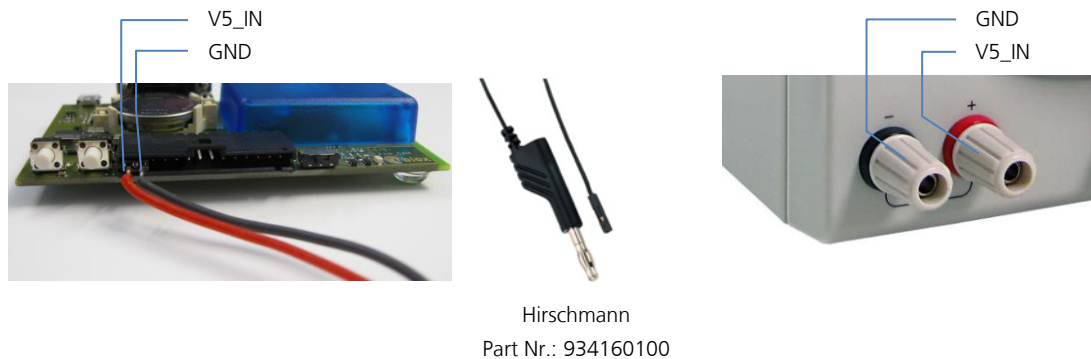
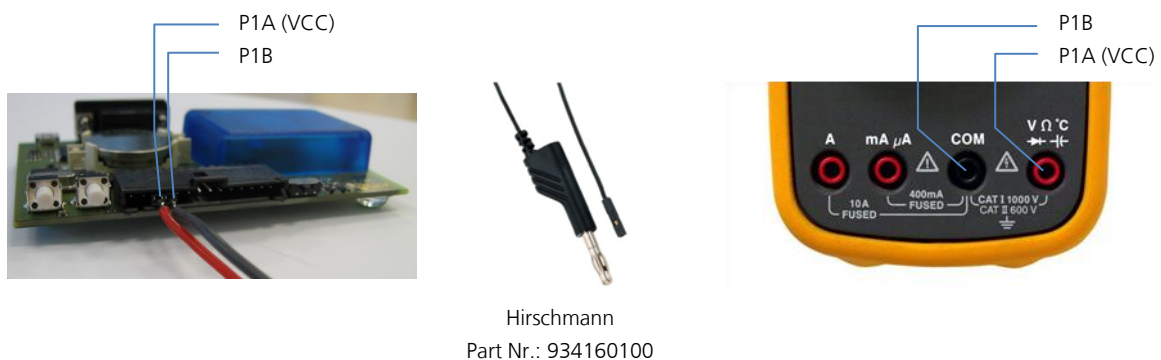

Figure 4: Example 5V DC power supply
Figure 5: Example – tracking current measurement
For accurate measurements, it is recommended to use a cable of at most 1 meter in length. Figure 4 shows an example of a power supply connected to the test connector by using standard adapter cables from the manufacture Hirschmann. Figure 5 shows an example for overall current measurement.
1. Connect a true RMS voltmeter across P1A (VCC) and P1B of the front connector (see Figure 5).